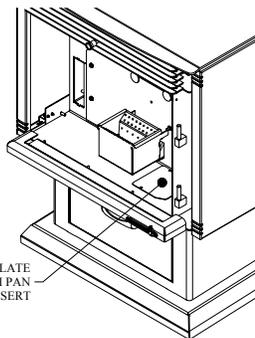

Figure 44
- f. Periodically remove and empty the ash drawer (see Figure 44 & 45) below the ash lip. Dispose of ashes properly. (See "ASH REMOVAL" above)